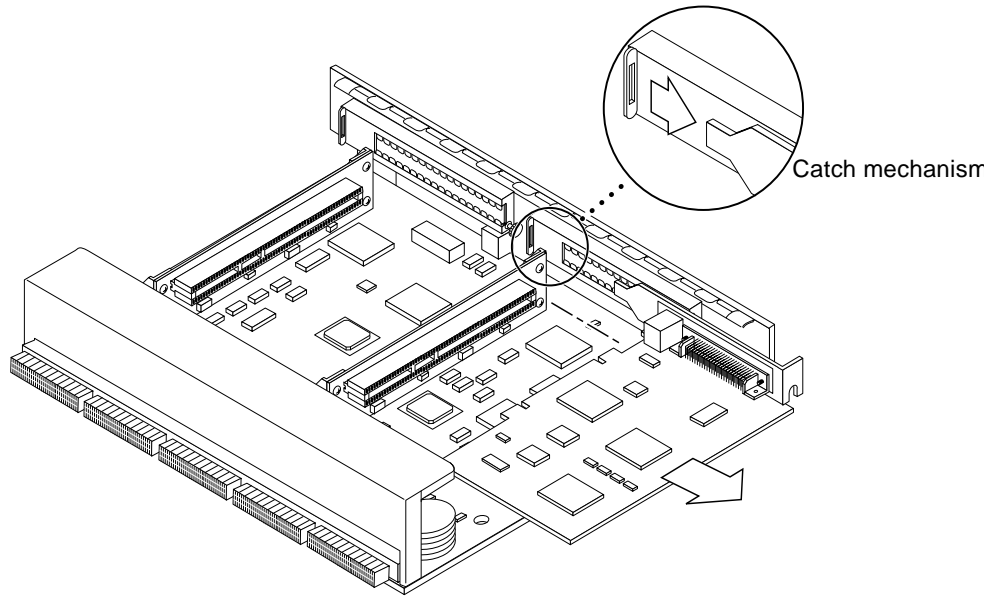

FIGURE 4-27 PCI Card Removal
4. Refer to FIGURE 4-27 while removing the card as follows:
5. Once the card is free of the PCI bus connector and the metal catch mechanism, remove the card from the I/O+ board (FIGURE 4-27).